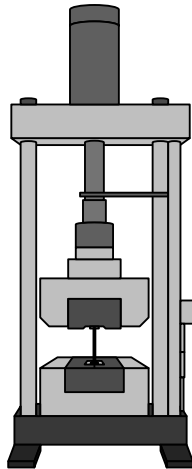

Figure 1
- 1.2 The mechanical properties of an aluminium alloy is analysed using a tensile testing machine as shown in Figure 1. The test piece is 13 mm in diameter and has a gauge length of 70 mm.